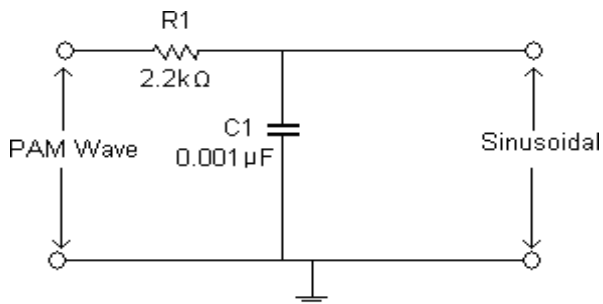

Fig .6.2 Demodulation Circuit
5. Feed the modulated wave to the low pass filter as in fig 6.2.